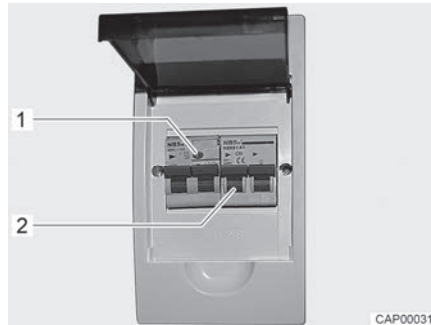

Fig. 56 230 V fuse box with safety cut-out and FI-switch
A fault current protection switch (FI-switch) in the fuse box protects the complete vehicle from fault current (0.03 A). A downstream safety cut-out (10 A) (Fig. 56,2) secures the 230 V power supply.
- When the vehicle is connected to the 230 V power supply, press the test button (Fig. 56,1). The fault current protection switch must trip.